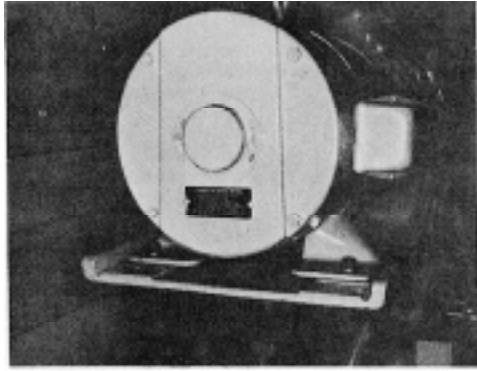

Fig. 5-1-8, F5103. 50 cycle motor brush location to reverse motor
11. The ST-848 test stands with 50-cycle current requires a change in motor brush location to reverse, motor for left hand fuel pumps. Fig. 5-1-8. Rotate cover shown to position required by loosening two cover screws.